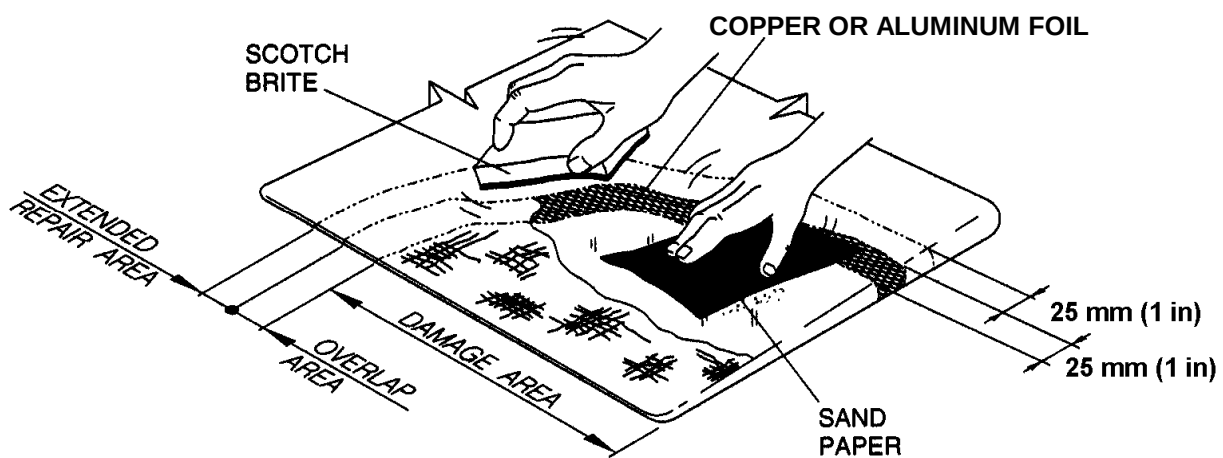
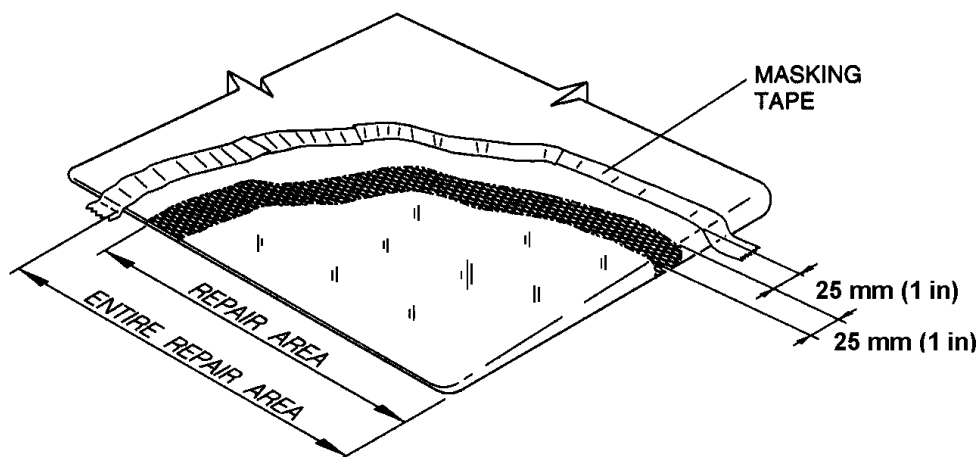
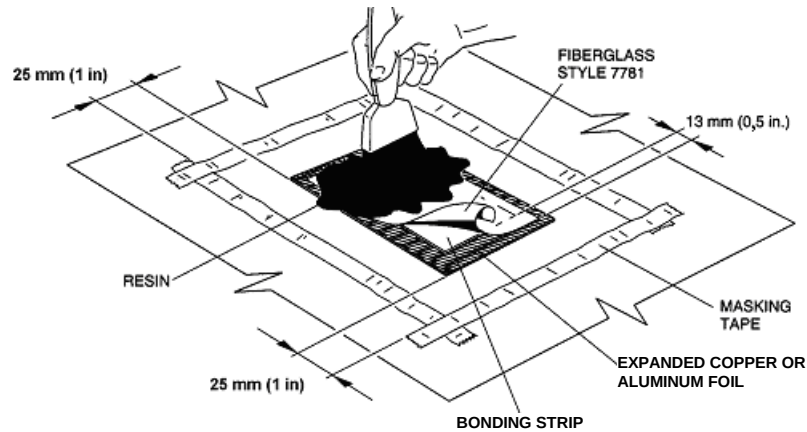

FIGURE 2: REPAIR AND OVERLAP AREAS
FIGURE 3: EXTENDED REPAIR AREA
FIGURE 6: BONDING STRIP
6.1.2 Calculate the size of the repair area, that consists of the area of actual damage, (see Figure 2) and an overlapped area surrounding the damage area extending 25 mm (1 inch) out from the damage (see Figure 2).
6.1.3 Using Number 180 or finer grit abrasive paper (4.4), lightly hand sand the 25 mm (1 inch) overlapped area enough to expose the expanded copper or aluminum foil (4.10 - see Figure 2). The fabric/foil is considered to be exposed when an electrical resistance measurement of less than 20 milliohms is obtained by lightly pressing the probe tips of the recommended milliohmmeter on the sanded overlap area. The probe tips shall be at least 25 mm (1 inch) apart. The reading shall be achieved in several places on the overlap area. The electrical measurements are for the purpose of assisting in the sanding process only.
6.1.4 Using a fine “Scotch Brite” pad (Type A), lightly abrade the surface surrounding the repair area for an additional 25 mm (1 inch) in all possible directions. This is referred to as the extended repair area in Figure 2. The repair area, together with the extended repair area, makes up the entire repaired area. See Figure 3.
6.1.5 Clean the repair area by saturating thoroughly with ethyl alcohol (4.7) using a clean, dry lint-free cloth (4.16). Wipe the surface with a second clean, dry, lint-free cloth prior to the evaporation of the solvent. Mask off around extended repair area with adhesive tape of glass fiber with PTFE (4.8). See Figure 3. Cover repair area with clean bagging film (4.9).
6.1.6 Select expanded copper or aluminum foil (4.10 - see Figure 2). Cut a piece of dry fabric/foil to size of entire repair area (considering an excedent area (25 mm – 1 inch, in all perimeter) for measurement purpose, see item 6.1.19) and solvent wipe with ethyl alcohol. To obtain a smoother surface in areas of complex curvature, the foil patch may consist of several overlapping pieces, provided that each piece makes contact with the overlap area.
6.1.11 Cut a piece of FEP (4.12) to the size of the repair area. See Figure 2. Place FEP on repair area.
6.2.1.3 Calculate the size of the area to be repaired that is the damage area (see Figures 2 and 3) plus a overlap area around the damage area exceeding 25 mm (1 inch) beside the damage. See Figure 6.
6.2.1.4 Remove the strip and the lay-up on the plate using Number 120 or finer grit abrasive paper (4.5), lightly hand sand the area enough to expose the expanded copper or aluminum foil (see Figure 2). The expanded copper or aluminum foil is considered to be exposed when an electrical resistance measurement of less than 20 milliohms can be achieved by lightly pressing the probe tips of the recommended milliohmmeter on the sanded area. The reading shall be achieved in several places on the sanded overlap area. The electrical measurements are for the purpose of assisting in the sanding process only and Quality Assurance verification is not required at this point.
6.2.2.3 Place the bonding strip over the repair area. Place one or two fiberglass ply style 7781 or carbon plain weave fabric with EA9396 (4.11), overlapping 13 mm (0,5 in) from the strip and apply a thin coat of EA9396 to the top surface of the strip. See Figure 6.
6.2.2.5 Calculate the size of the area to be repaired that is the damage area (see Figure 6) plus a overlap area around the damage area exceeding 25 mm (1 inch) beside the damage.